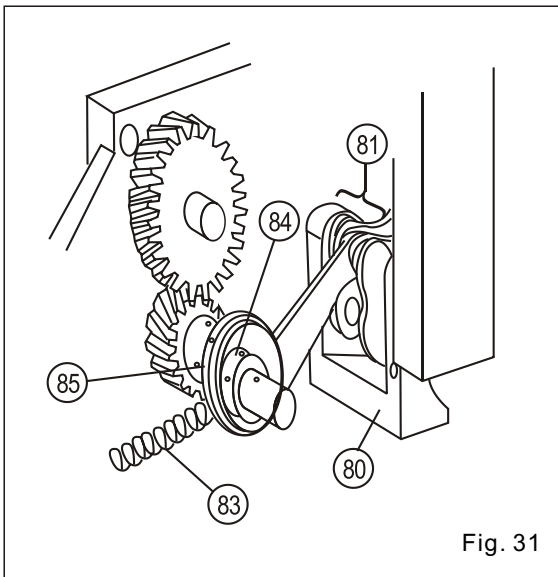
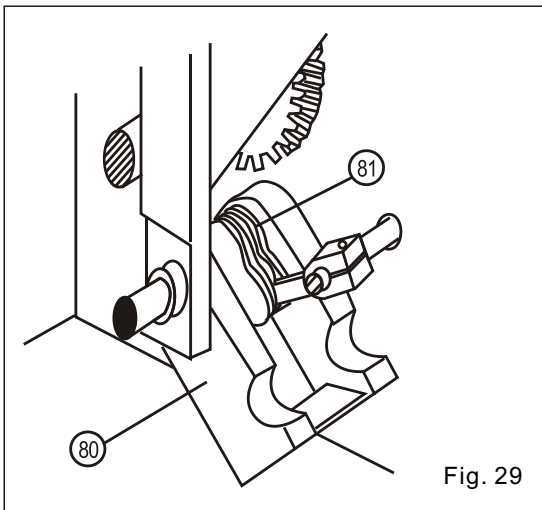

Fig. 31
Fig. 29
(3) Take off the spring of outer extension member (No. 83 in Fig. 31), as indicated in Fig. 31.
(1) The space between thread control lever (No. 71 in Fig. 30) and lower main shaft (No. 82 in Fig. 30) shall be 3mm. When the control lever is in this position, the four hook rings shall be on a straight line, as indicated in Fig. 29 and Fig. 30.
(4) Fasten the clamp screw of sewing eccentric cam (No. 84 in Fig. 31), and turn the handwheel to make the needle bar into the lower dead center. To move the upper needle gauge adjusting roller carrier (No. 80 in Fig. 29) with hand, it is needed to move the extension eccentric cam radially to a fixed position of lower cloth feed dog. When the connecting rod (No. 85 in Fig. 31) gets in line, fasten the screw of eccentric cam, as indicated in Fig. 31.